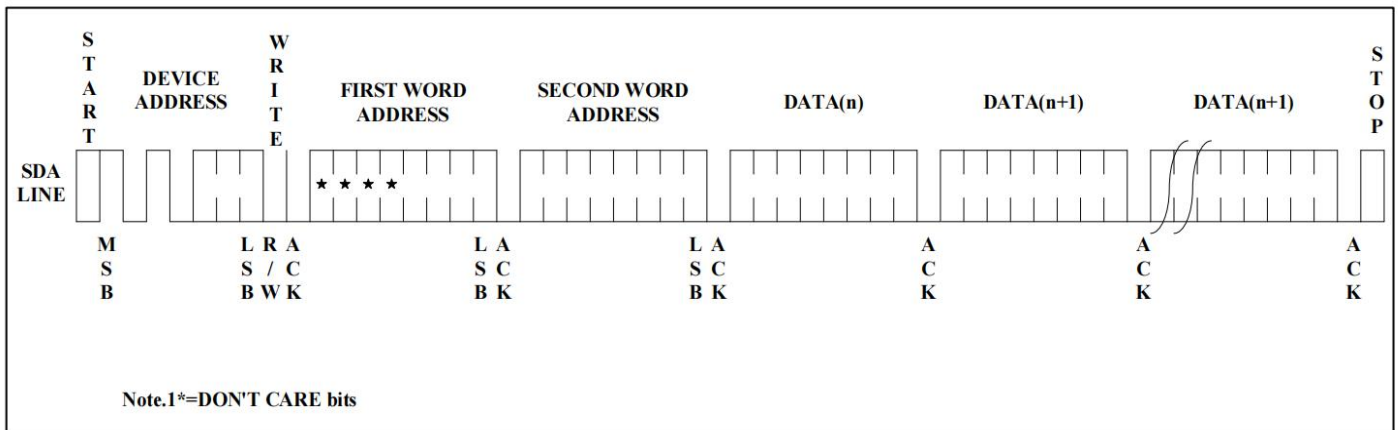

Figure 7. Page Write
**PAGE WRITE:** The Page Write mode allows up to 32 bytes to be written in a single Write cycle. A page write is initiated the same as a byte write, but the microcontroller does not send a stop condition after the first data word is clocked in. Instead, after the EEPROM acknowledges receipt of the first data word, the microcontroller can transmit up to 31 more data words. The EEPROM will respond with a "0" after each data word received. The microcontroller must terminate the page write sequence with a stop condition (see **Figure 7**).